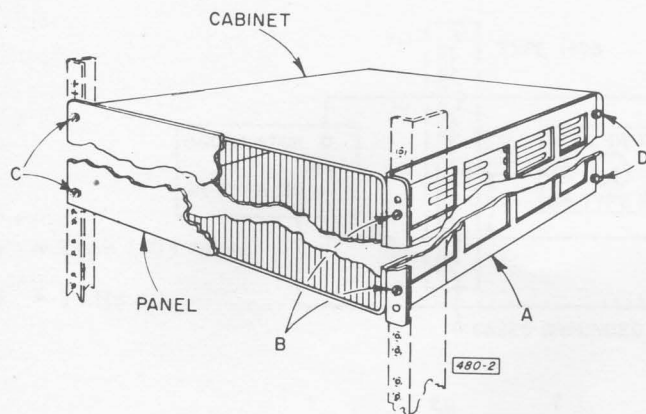

Figure 2-2. Installation of relay-rack model.
d. To install the instrument in a relay rack, see Figure 2-2. Attach each support bracket (A) to the relay rack with two 10-32 screws (B). Use the two inside holes in the bracket.